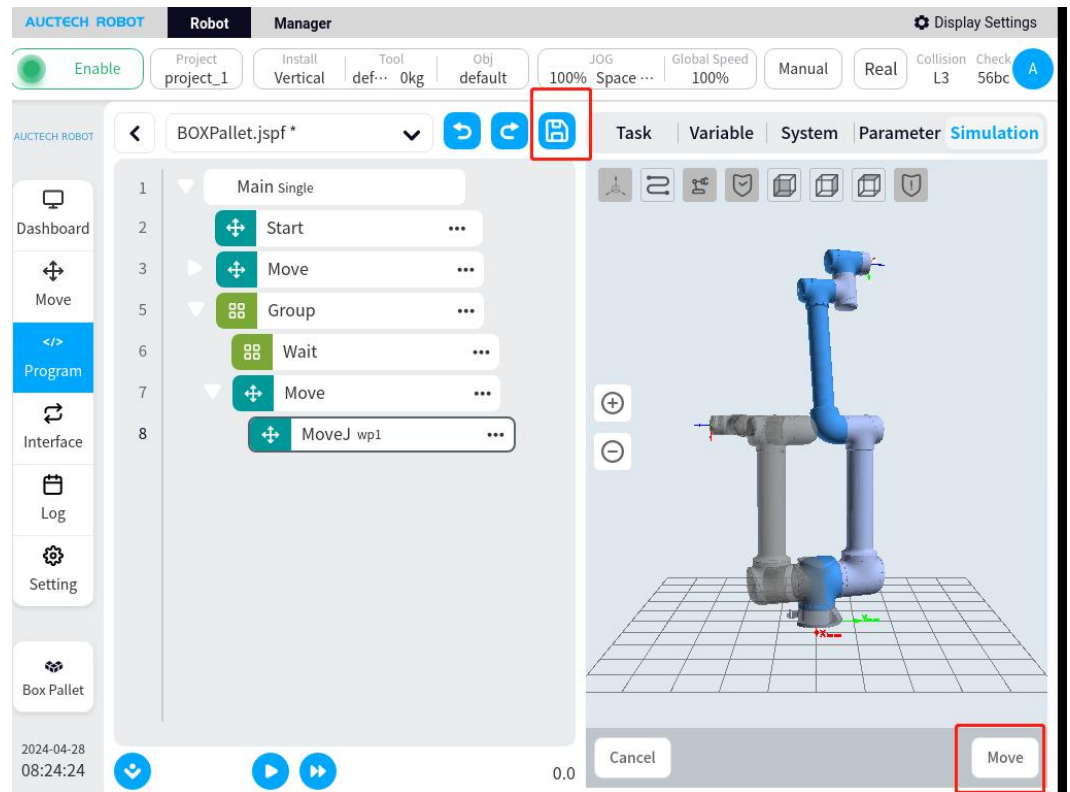

Figure 44
7、The mechanical arm returns to the initial position of the script, as shown in Figure 44.